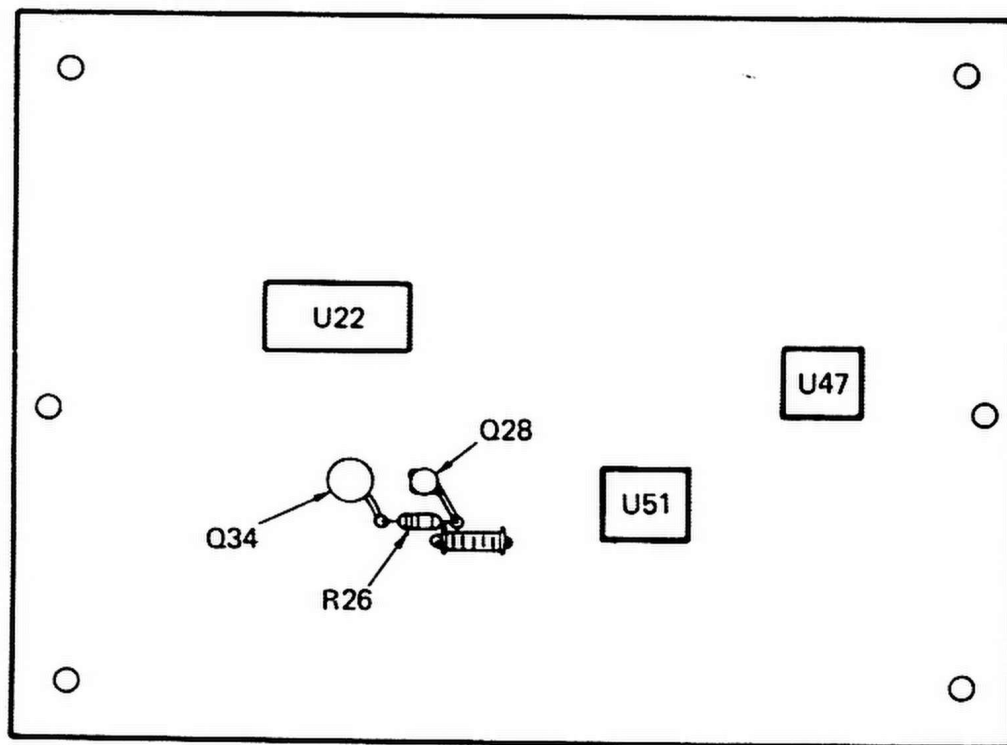

Fig. 1. Partial component locator for the SCR Turn-Off Time circuit board, showing locations for R26 and U51.
- () 5. Carefully unsolder the 56k Ω resistor, R26, from the SCR Turn-Off Time circuit board. Resistor R26 connects between the collector of transistor Q28 and the emitter of transistor Q34. See Fig. 1 for location.
- () 7. Replace microcircuit U51, on the SCR Turn-Off Time circuit board, with the microcircuit included in the kit. Refer to Fig. 1.
- () 10. Refer to the Calibration Section (5) of the 035-5028-00 SCR Turn-Off Time Adapter instruction manual and check instrument for proper operation, making any necessary adjustments.